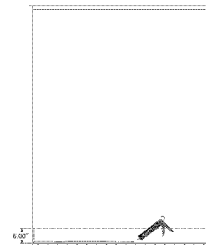

Figure 2
12. Apply a full bed of approved sealant to the sill and at the bottom corners of the opening. Make sure the amount of sealant will be sufficient to fill the two cavities on the underside of the threshold. Continue the sealant beads 6" up the substrate jamb. **See Figure 2**